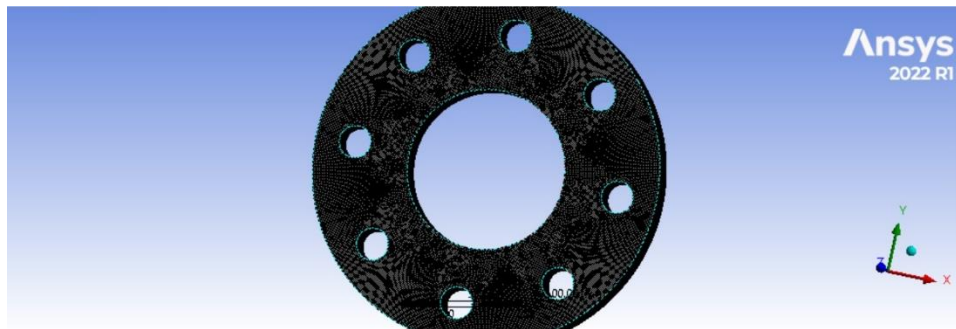

Figure 2b: Generated Mesh on Flange
- **Mesh:** Refined mesh around the bolt holes and fillet regions as shown in **Figure 2b**